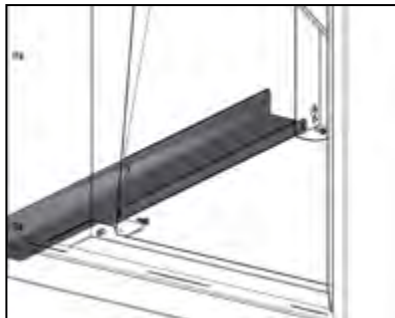

Figure 10-8: Location of base spacer channel and screws
- From inside the side pellet store casing, undo and remove the two screws holding the base spacer channel to the side pellet store. Refer to Figure 10-8.
- From inside the side pellet store; re-fit the two screws attaching the bottom spacer channel to the side pellet store. Leave finger tight at this stage. Refer to Figure 10-8.